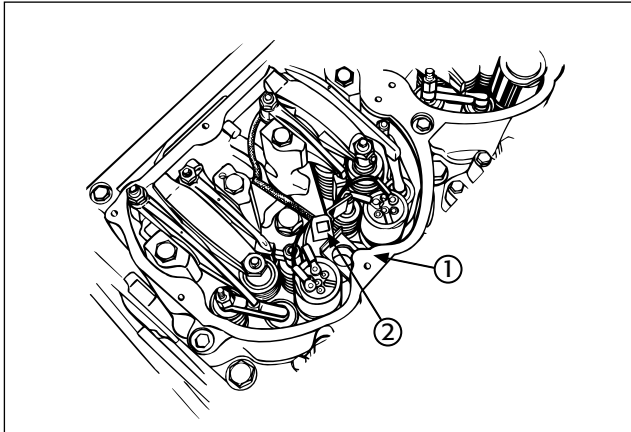

FIG. 2
The photographs in this manual show the valve cover base in place during engine brake installation. Production engines will be equipped with a cover base (1) that includes three support brackets (2) for containment of the injector wire harnesses (see Fig. 2).